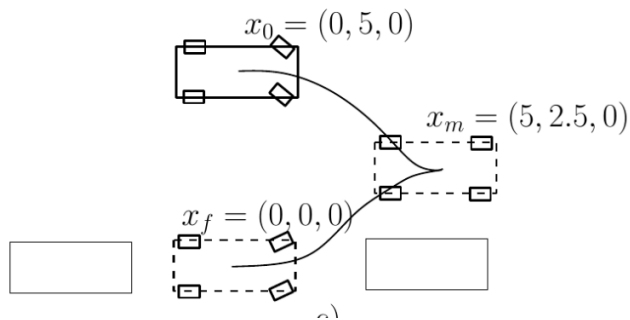

Figure 1: Parallel parking for the car.
- (15 pts) The car is required to perform a parallel parking maneuver starting at state $x_0 = (0, 5, 0)$, going forward to state $x_m = (5, 2.5, 0)$ and backing-up to state $x_f = (0, 0, 0)$. Employing the fact the system is differentially flat, give explicit expressions for the trajectory $x(t)$ and required inputs $u(t)$ to generate the two segments of the parking maneuver. You can use polynomial interpolation or another basis function approach in flat output space. Assume that each segment takes time $T = 10$ s. When designing the paths, you can assume that the magnitude of the initial and final velocity of the car in each segment can be chosen freely, e.g. you can set $|u_1| = 1$ m/s. See Figure 1.
- i. (10 pts) Generate a parking maneuver (see Figure 1) in flat output space $y = (x_1, x_2)$ and use the explicit expressions derived in the previous question (part b) to compute the state trajectory $x(t)$ and required inputs $u(t)$ from $y(t)$. As in the previous assignment, the car is required to perform a parallel parking maneuver starting at state $x_0 = (0, 5, 0)$, going forward to state $x_m = (5, 2.5, 0)$ and backing-up to state $x_f = (0, 0, 0)$. Assume that each segment takes time $T = 10$ s. When designing the paths, you can assume that the magnitude of the initial and final velocity of the car is $|u_1| = 1$ m/s. Now, implement a linearization-based tracking controller using part 2a and follow the generated path. Start at a “perturbed” initial state $\tilde{x}_0 = (0.25, 5.25, 0.1)$ and show that your controller stabilizes to the desired trajectory. Plot the flat output trajectory relative to the generated maneuver, and plot the control trajectory.